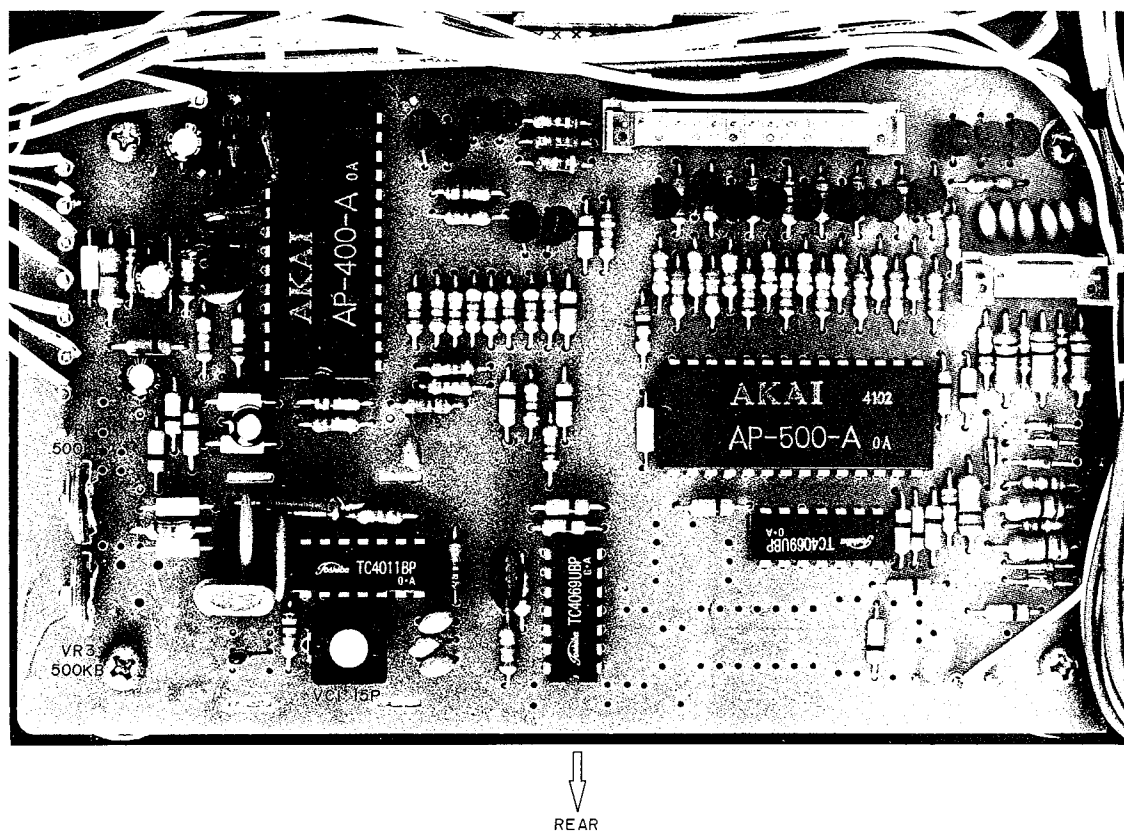

Fig. 32 Synthesizer P.C Board
(Refer to Fig. 32)
2. Quartz Lock Adjustment (Refer to Figs 32, 34)
4. Phase Angle Adjustment (Refer to Figs. 32, 33 and 35)